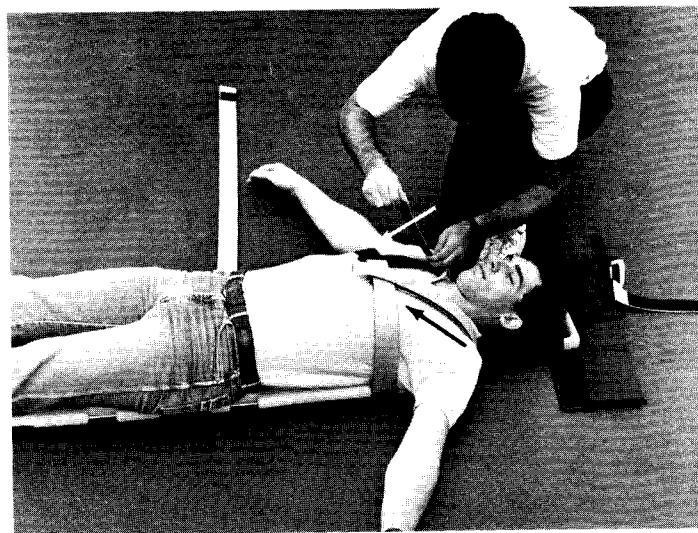

Figure 4.2
4.2 Adjust the shoulder straps. Avoid overtightening the shoulder straps as it may obstruct chest expansion. (Figure 4.2)